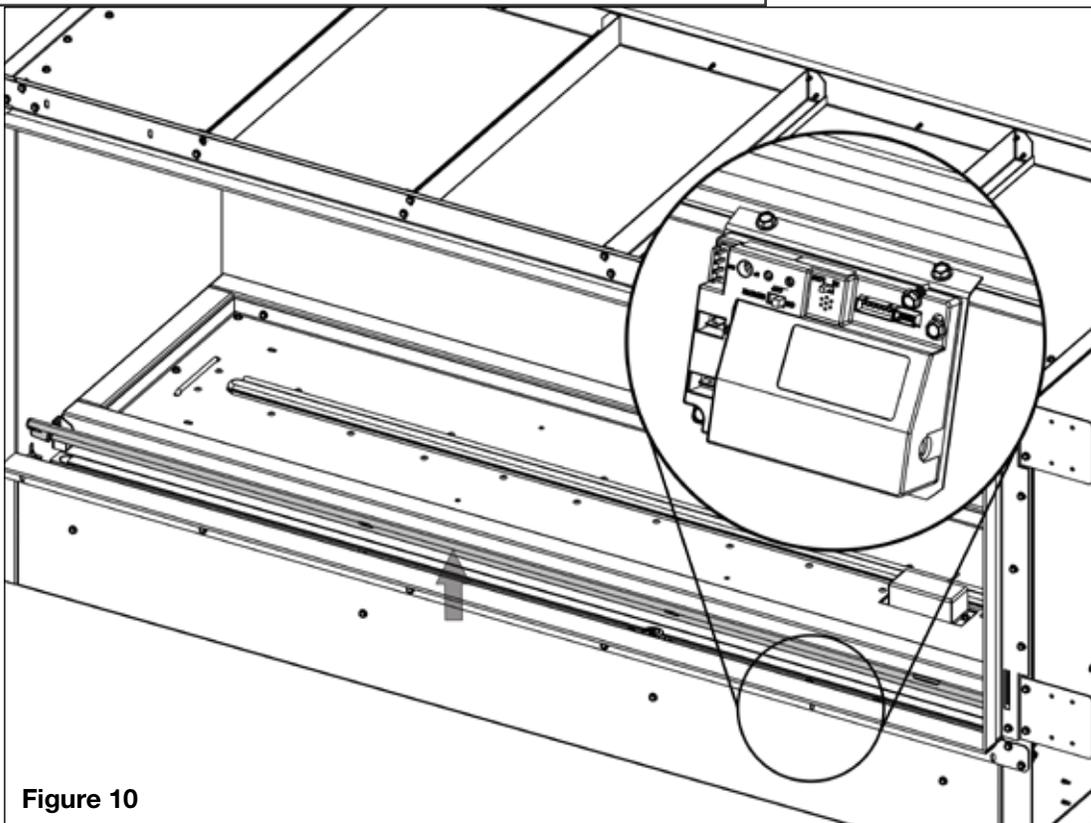

Figure 10
- Locate the control module in the appliance (**Figure 10**).